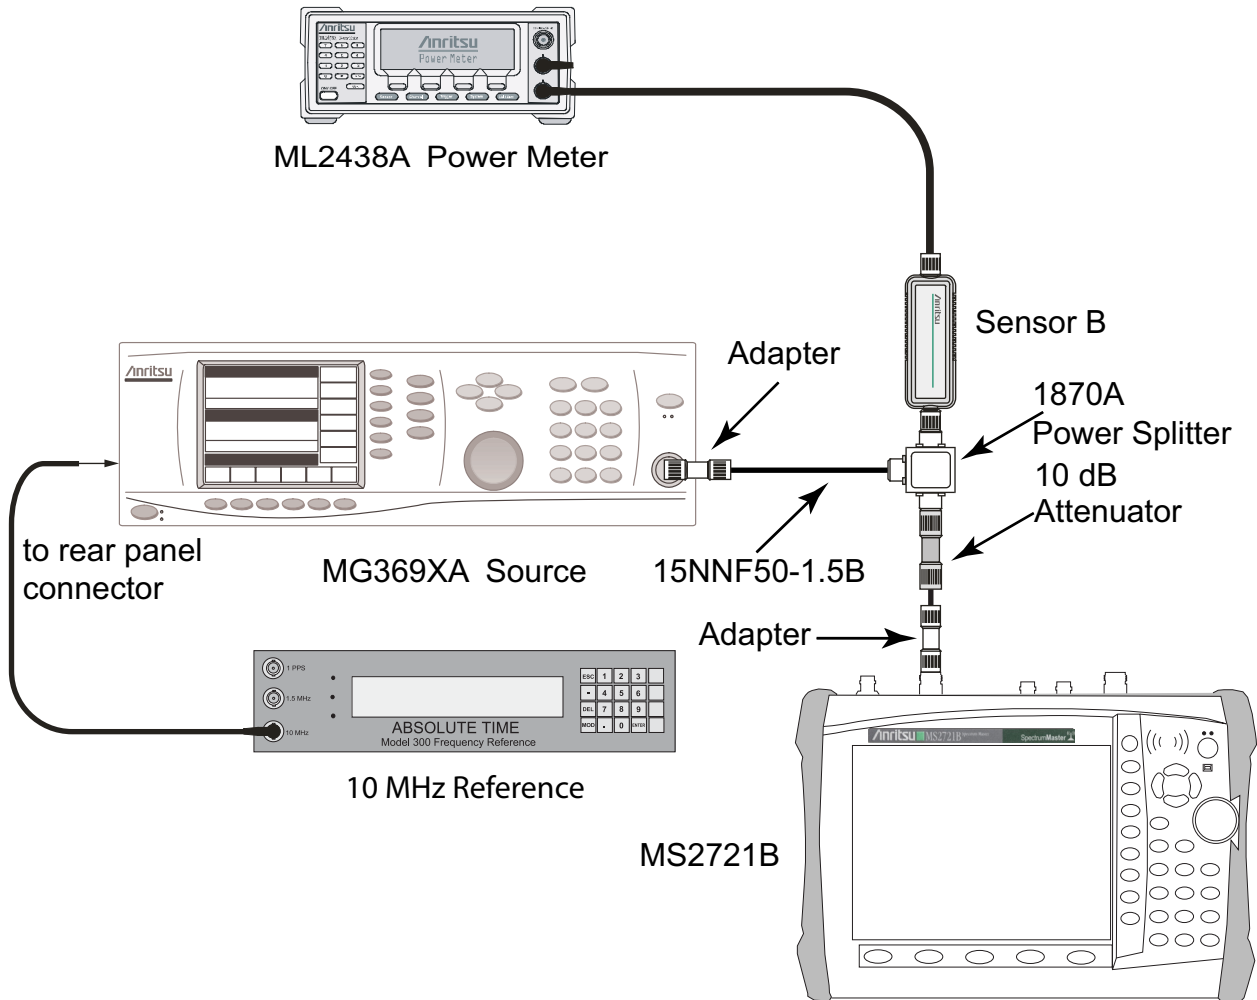

Figure 2-10. 50 MHz Amplitude Accuracy Verification Test Setup
1. Connect the equipment as shown in Figure 2-10, disconnecting Sensor A from the Attenuator, and connecting the MS2721B to the splitter output via the Attenuator.
1. Connect the equipment as shown in Figure 2-10.